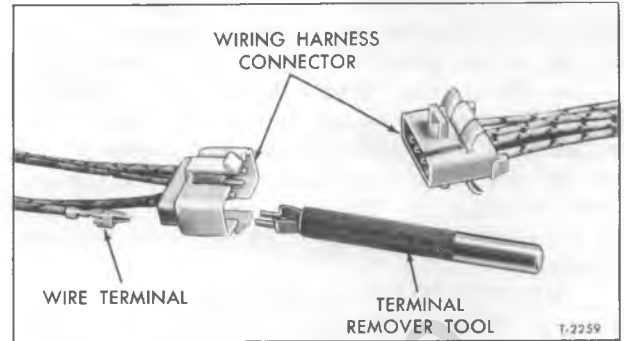

Figure 4—Removing Twin Lock Connector Terminals
2. To remove a twin lock type terminal from connector, disengage the lock tangs and separate connector. Insert terminal remover (J-22727) or equivalent, as shown in figure 4 to disengage terminal locks from the connector. Pull wire and terminal from cable connector.